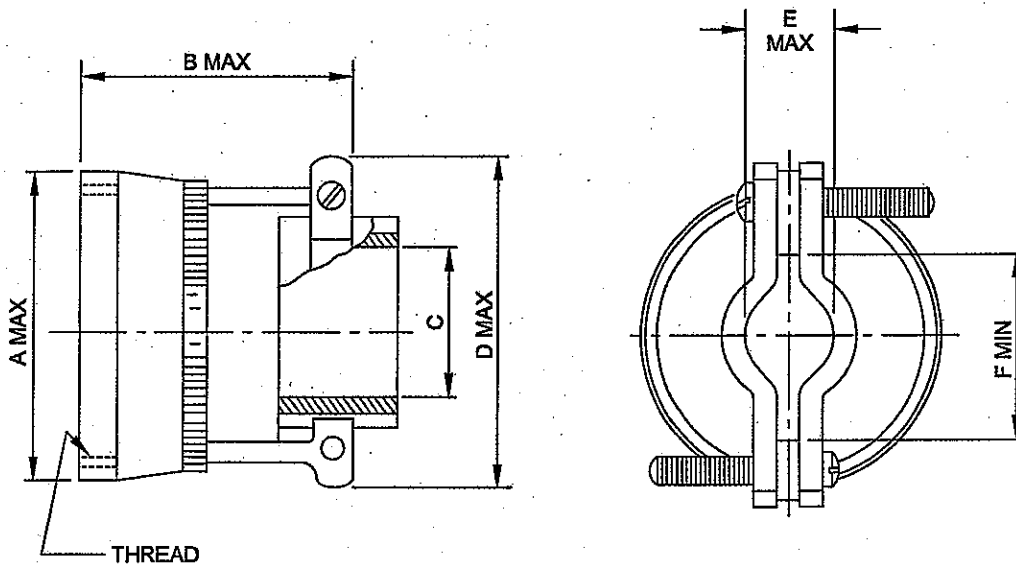

Fig 36 Straight cable clamp, dimensions
24.1 Details of the straight cable clamp are given in Fig 36 and Table 25.